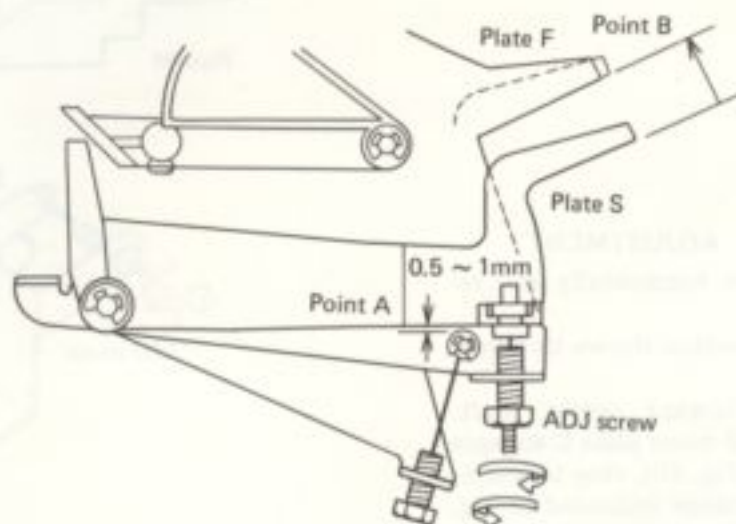

Fig. 34
12.3 STOP ADJUSTMENT (Fig. 34)
2. Adjust screw so that point A in Fig. 34 is 0.5 to 1.0mm when plate S moves.